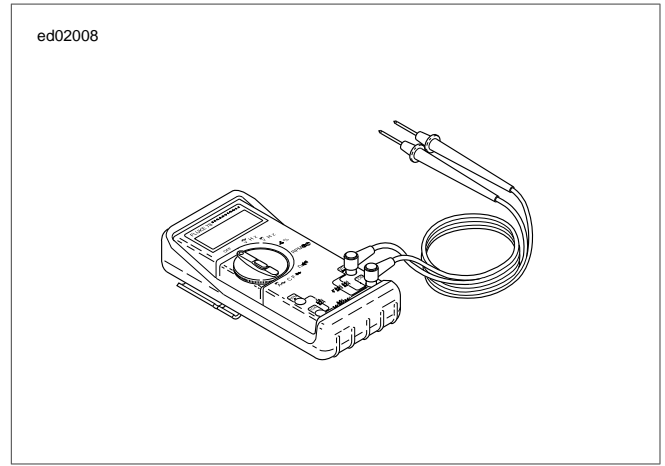

Figure 1-16. Digital Multimeter (Fluke 78)
- See Figure 1-16. Connect DIGITAL MULTIMETER (FLUKE 78) (Part No. HD-39978) to wiring harness between suspect connections. When diagnosing ECM connections, use BREAKOUT BOX (Part No. HD-50390-1), ECM CABLE (Part No. HD-50390-4) and ECM OVERLAY (Part No. HD-50390-4-P) to simplify the procedure. See 1.3 DIAGNOSTIC TOOLS.